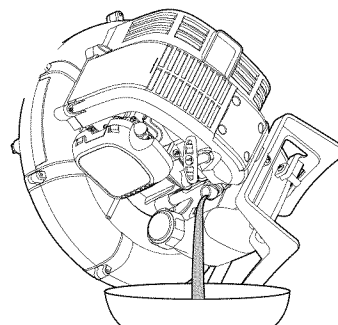

Fig. 17
3. Tip the unit to the side to pour the oil out of the oil fill hole and into a container (Fig. 17). Allow ample time for complete drainage.